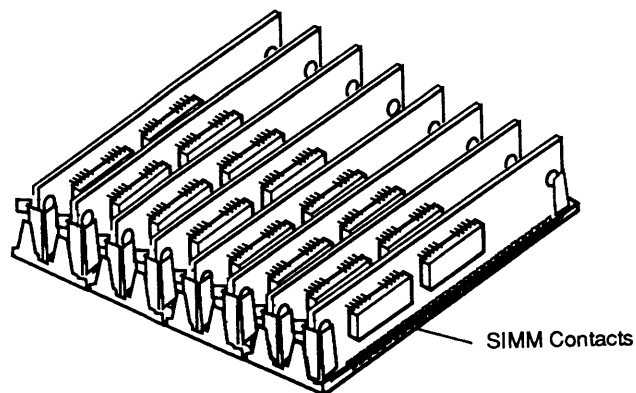

Figure 6-8 Replacing a SIMM
1. With the SIMM contacts pointing down (**Figure 6-8**), place the SIMM into the connector at an angle. Push down on the top corners of the SIMM. You will hear a click when the SIMM snaps into place.